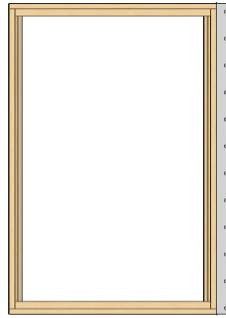

Fig. 2
- Cut a notch in the exterior clad accessory channels in the head and sill to allow for mull key to set flush. If not already done from the factory (Fig. 2)